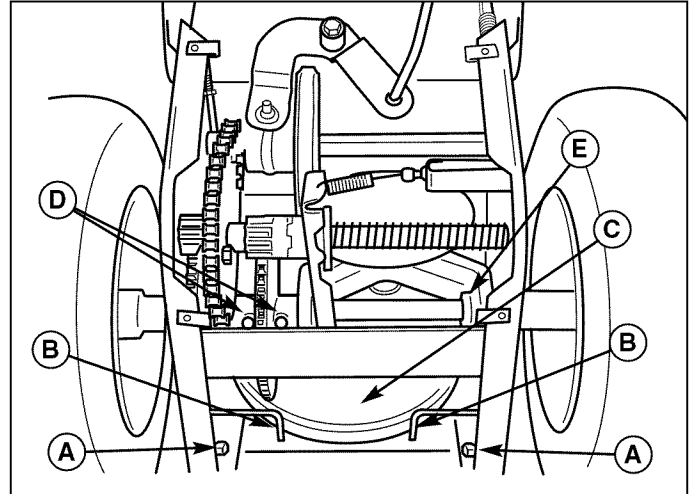
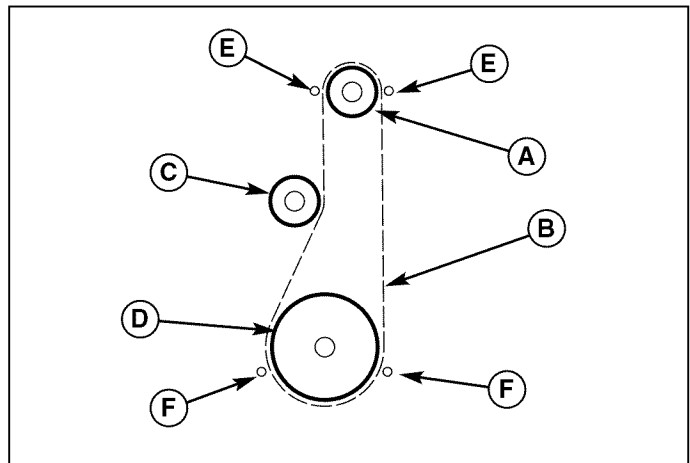

Figure 29. Auger Pulley Belt Stops (shown with bottom cover removed)
Figure 30. Belt Pattern (viewed from front)
- c. Remove two capscrews from bottom cover to snowthrower frame. Loosen nuts (A, Figure 29) on each side to release auger pulley belt stops (B). Move belt stops and remove belt from pulley (C).
- d. Remove the two bolts (D, Figure 29) from the gear assembly.
6. Reverse the procedure to install the belts. Be sure there are no twists and the belts are properly seated in the grooves. Adjust the belt stops so there is 1/8" (3mm) clearance between belt and stop. The pattern for both belts is shown in Figure 30. Slide the right axle left fully before tightening the set collar (E, Figure 29).